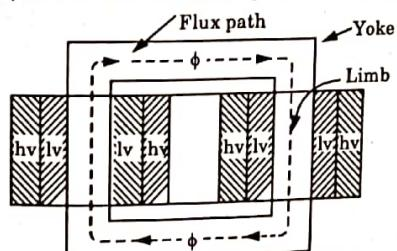

Fig. 4.1.1. Core-type transformer.
- To keep the leakage flux to a minimum, half of each winding is placed on each leg of the core as shown in Fig. 4.1.1.